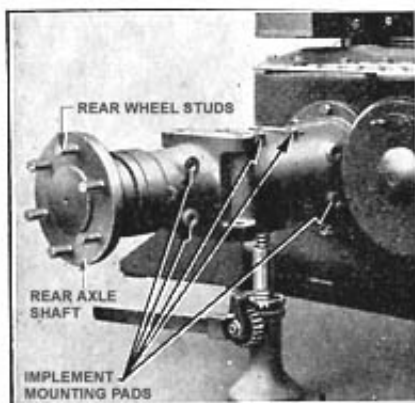

Figure 45
To remove the rear wheel, apply the handbrake, place the jack in position beneath the rear axle housing, see Fig. 45, but before raising the wheel fully from the ground, loosen the six wheel nuts with the spanner provided in the tool kit. Raise the wheel fully and then unscrew the nuts when the wheel can be removed from the studs. Take care not to damage the threads by allowing the weight of the wheel to be taken on the studs.
- (a) Rear axle housings. See Fig. 45.